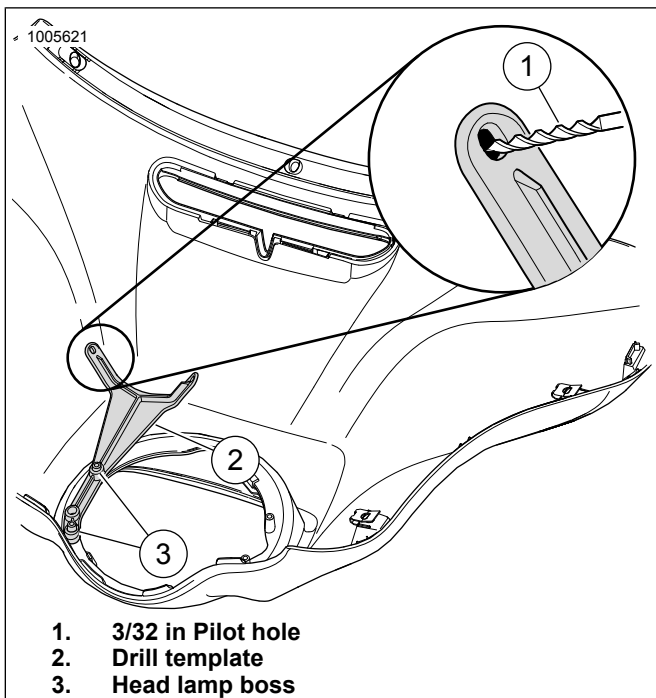

Figure 1. Pilot Hole Template
1. See Figure 1. Align plastic drill template (2) on fairing head lamp bosses (3).
2. Drill a 3/32 in pilot hole (1) using drill template.